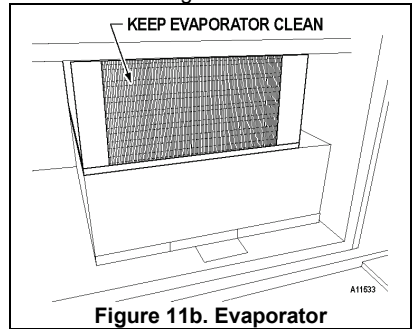

Figure 11b. Evaporator
- Is the evaporator fan working? To check if the fan is running take a small piece of paper in front of the evaporator coil and see if the evaporator fan will draw the paper. See Figure 11b on page 33.